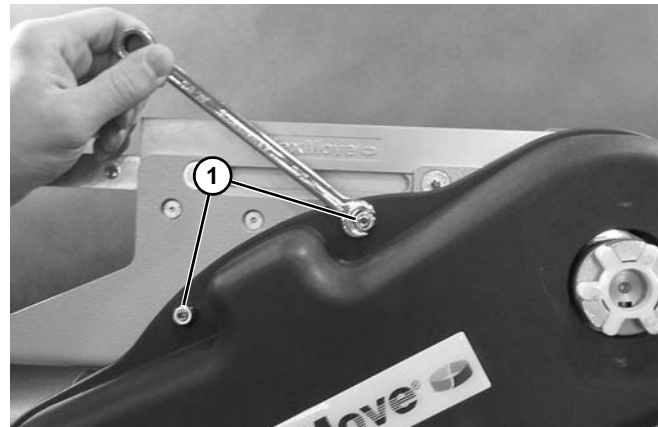

Figure 197
1. Remove two nuts (Figure 197, item 1).